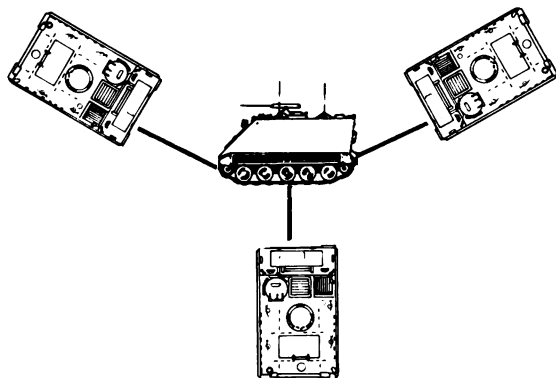

Figure 3. Recovering overturned APC with similar vehicles.
d. An overturned tracked vehicle can be uprighted by using three similar vehicles (figure 3). One vehicle is used to pull the overturned vehicle upright; the other two vehicles are used to hold and retard the fall of the overturned vehicle to prevent its crashing down on the suspension system. Two cables should be connected together in pairs to allow safe working distance. The cable used to upright the overturned vehicle should be connected to the nearest center roadwheel arm support housing on the high side of the overturned vehicle. Never connect to any other part of the suspension system, turret, or the tiedown eyes. The two vehicles used for holding should be positioned at a 30° to 45° angle from the overturned tank with their cables connected to the two hooks on the high side of the overturned vehicle. The holding vehicles are so positioned to prevent damage to the cables or the fenders and lights of the overturned vehicle as it is uprighted. Drivers of the holding vehicles shift to low range; the pulling vehicle applies power gradually in reverse, while the holding vehicles move forward only enough to keep their cables taut until the overturned vehicle passes through the point of balance. As the overturned vehicle passes through the balance point, the holding vehicles move forward slowly, supporting the overturned vehicle and lowering it onto its suspension system. Because of spilled oil and fuel that will normally be present, extreme caution must be exercised to prevent smoking or open flames near the overturned vehicle.